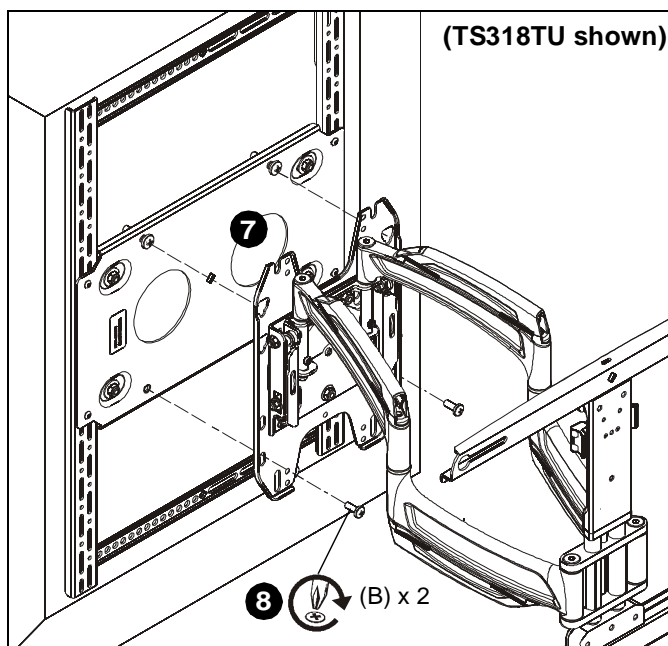

Figure 4
7. Hang display onto faceplate inserting two installed Phillips machine screws (B) into upper mounting holes. (See Figure 4)
8. Secure adapter bracket to faceplate by installing two 5/16-18 x 1/2" Phillips pan machine screws (B) through lower two 200 x 200mm mounting holes on faceplate and adapter bracket. (See Figure 4)
9. Tighten all four screws (B) to fully secure adapter bracket (A) to faceplate.